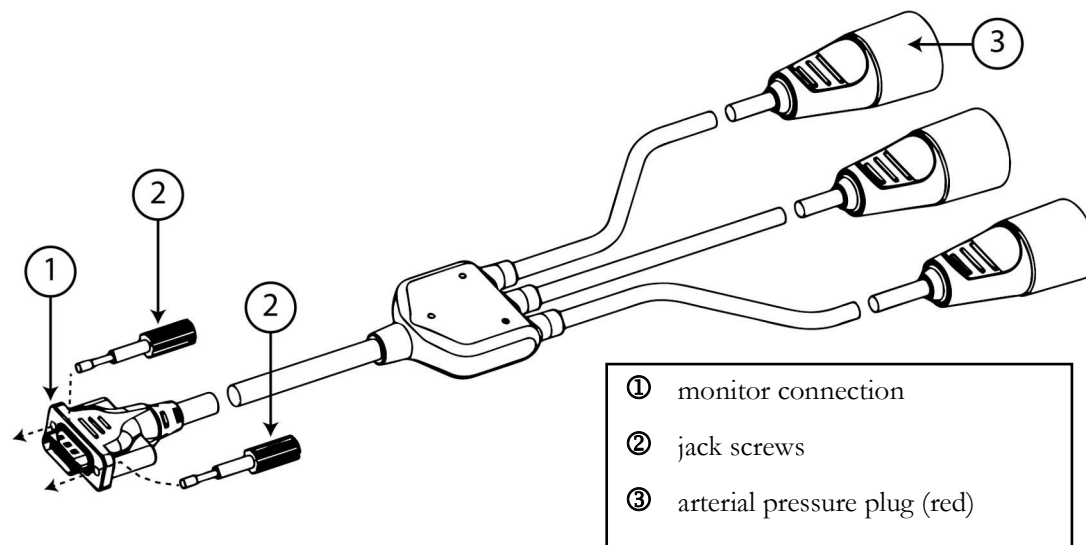
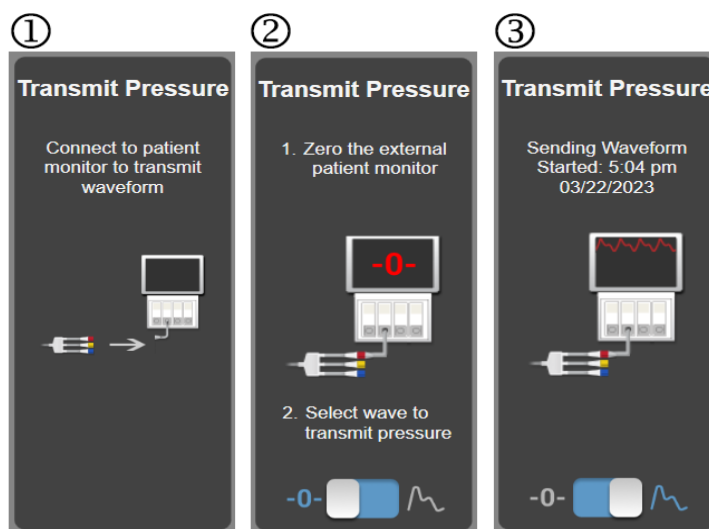

Figure 9-10 HemoSphere pressure-out cable
Figure 9-11 Transmit arterial pressure waveform to patient monitor
- 2 Plug the 18-pin connector of the HemoSphere pressure-out cable (see ① in figure 9-10) into the rear panel of the monitor at the pressure-out port denoted by the analog out symbol . See ⑨ in figure 3-2 on page 40.
- 3 Use the two jack screws to properly secure the pressure-out cable plug in place. See ② in figure 9-10 on page 111.
- 4 Connect the arterial pressure (AP, red, ③) pressure signal plug into a compatible patient monitor. Ensure that the selected connector is fully engaged. Refer to the patient monitor instructions for use.
- 5 Zero patient monitor and confirm 0 mmHg is displayed. See ② in figure 9-11. Refer to the patient monitor instructions for use.
- 6 Toggle to the **Transmit Waveform** icon  to begin pressure signal output to the patient monitor. See ③ in figure 9-11.
- 7 A “**Sending Waveform Started:**” message with the timestamp is displayed when the live waveform is being transmitted to the connected patient monitor. See ③ in figure 9-11.